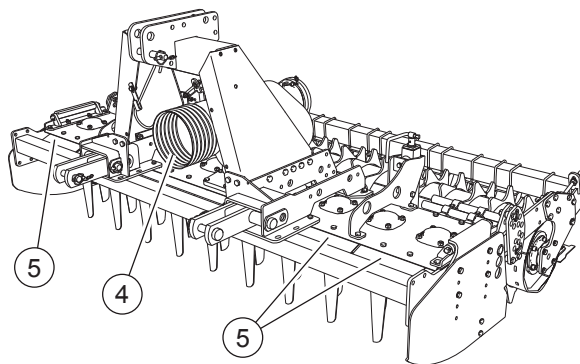

FIG. 20
- PTO guard tractor side (4, "Fig. 20"),
- Protective plate for preventing access to the blades (5, "Fig. 20").